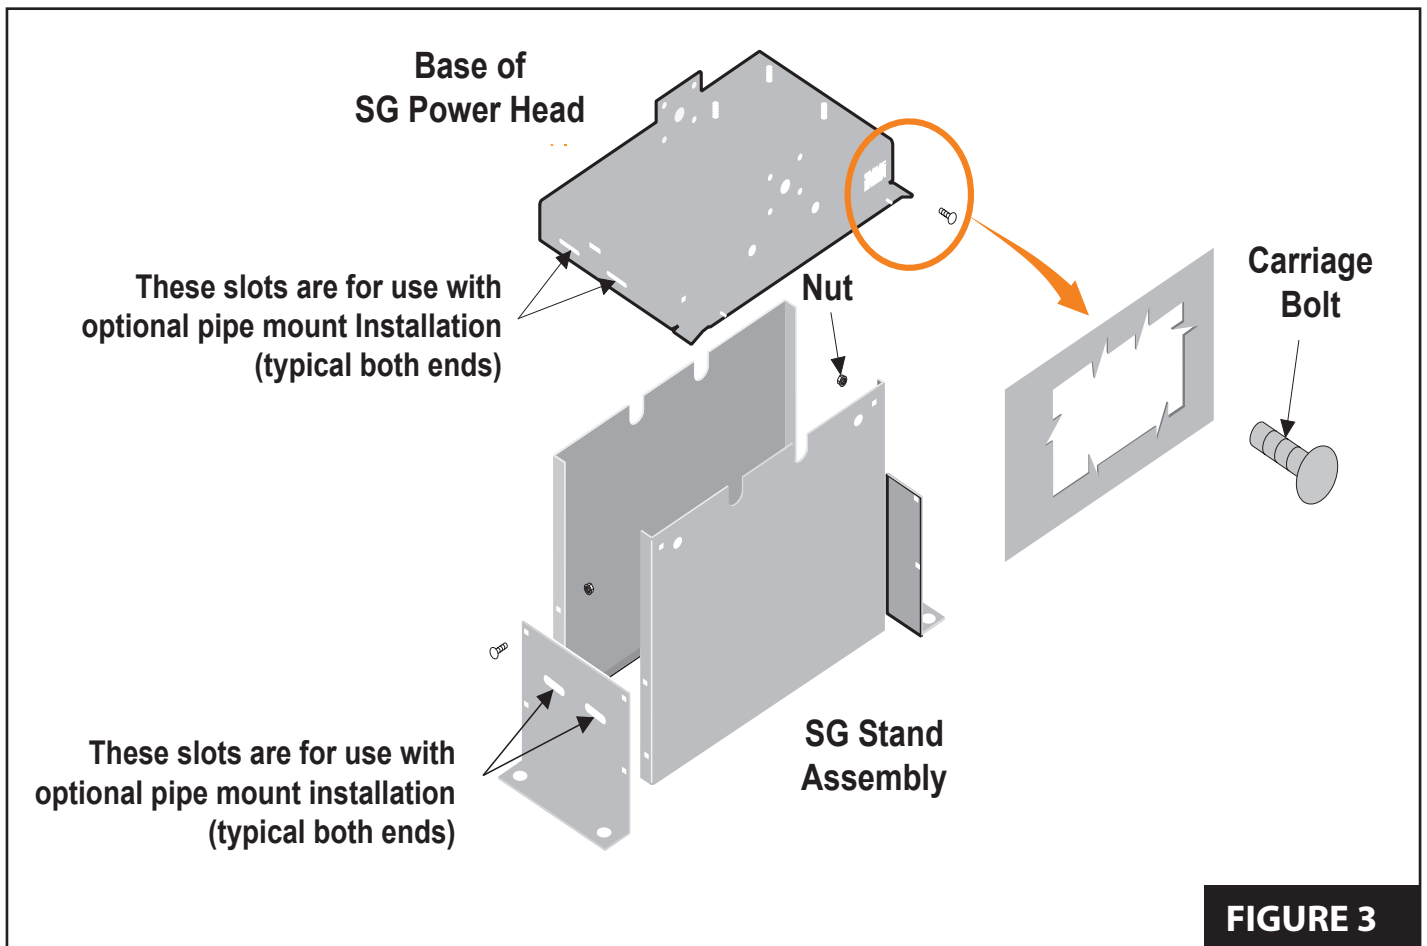

FIGURE 3
1. Assemble stand and mount power head using carriage bolts. See **Figure 3**.